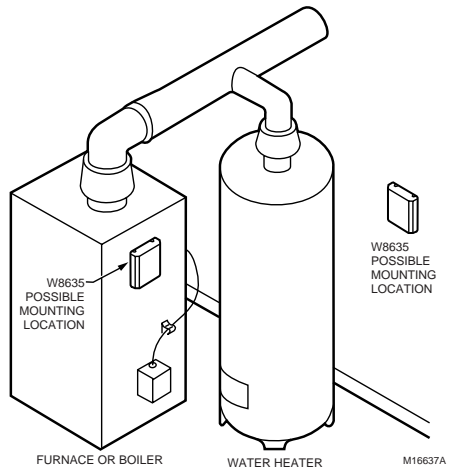

Fig. 1. Selecting W8635A Equipment Interface Module location.
1. Locate the W8635A in the equipment room near the HVAC equipment. See Fig. 1.